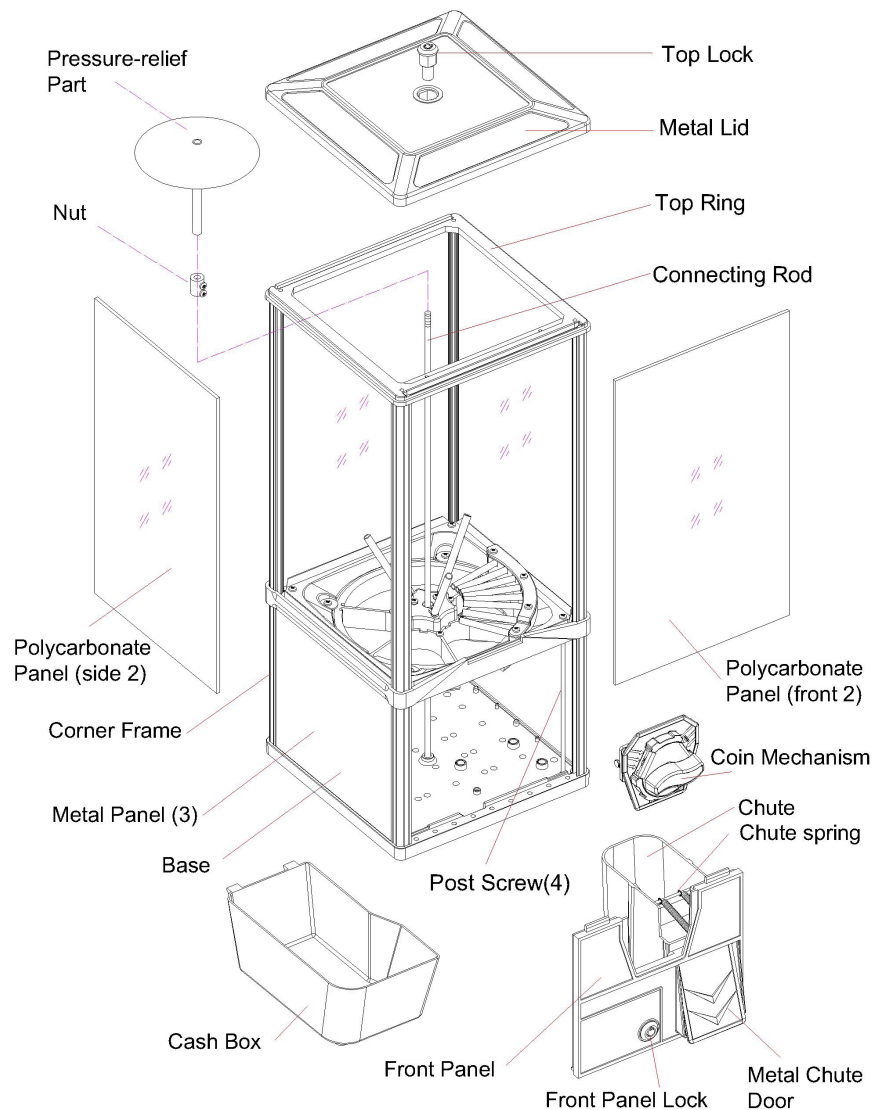

Figure 1
- b. Remove the polycarbonate Panel (Front 2) and Pressure-relief Part by removing post screw (4) from the machine (Fig. 1)